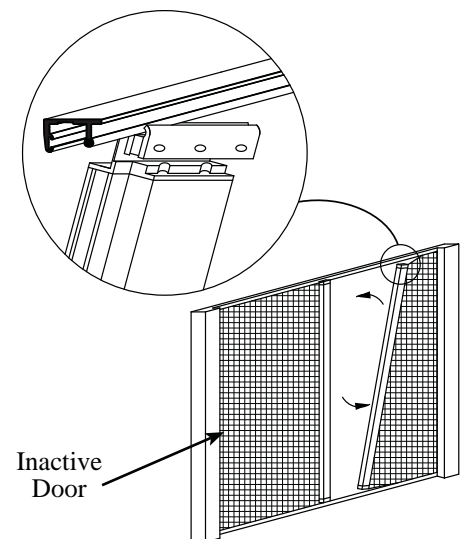

Figure 12
Carefully... and while making sure the screen is properly guided within the top and bottom tracks, pull on the center of the drawbar until approximately two (2) feet of screen is exposed. Line up the top drawbar guide with the top track, and the bottom drawbar guide with the bottom track (*this will require the drawbar to be at a slight angle*) and "snap" into place (Figure 12). Allow the screen to retract back into the housing. Test for smooth operation.